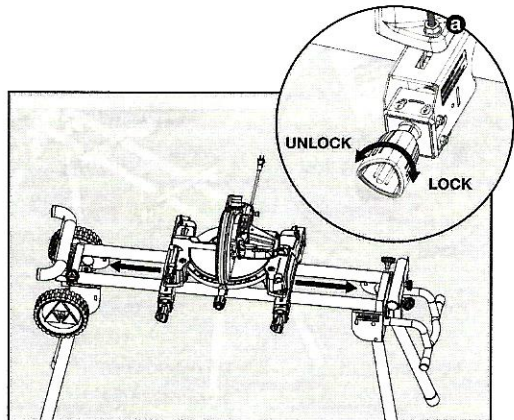

FIGURE 9
2. Position the saw in the desired location on the stand as shown in Figure 9. Lock mounting brackets in place using the lock knob on each mounting bracket see Figure 9a.